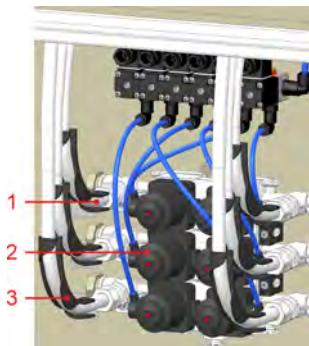

Fig. 6: Diaphragm valve manifold block / machine assignments
1. → As shown in Fig. 6, connect the hoses for connecting the washer extractors to the threaded unions (Fig. 6, no. 1) of the valve block (Fig. 6, no. 2).
2. → Feed the hoses outside via the angle guide (Fig. 6, no. 3).